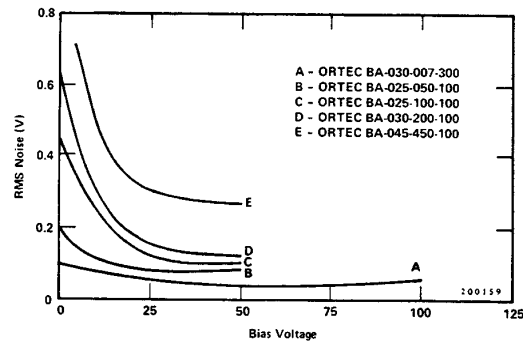

Fig. 4.4. Amplifier and Detector Noise vs Bias Voltage.
3. Then obtain the amplifier noise resolution spread by measuring the FWHM of the pulser spectrum. The detector noise resolution spread for a given detector bias can be determined in the same manner by connecting a detector to the preamplifier input. The amplifier noise resolution spread, of course, must be subtracted. The detector noise will vary with detector size and bias conditions as indicated in Fig. 4.4 and possibly with ambient conditions.